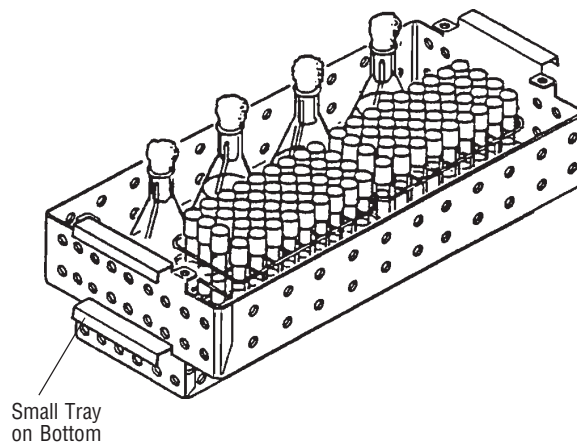

**Figure 3A-27**
2. Verify that the water reservoir is full (water level should be between REFILL and MAX indications on the water level tube, Figure 3A-14). If needed, slowly add distilled or deionized water (minimum resistivity of 1 megohm/cm). Do not overfill. Replace the water reservoir cover.